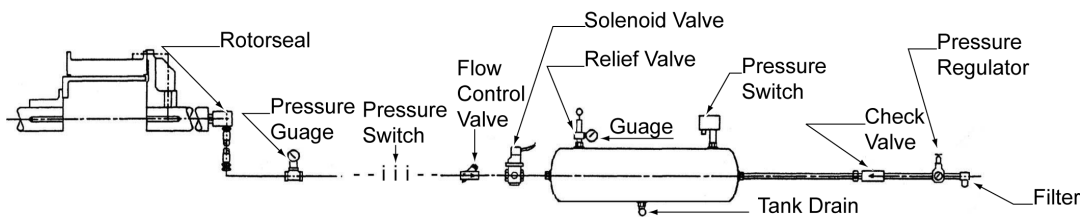

Figure 12
- 2.7.1 A typical air control system is shown on **Figure 12**. Since the air control system used will be dependent on the specific application, a detailed description cannot be made in this manual. Following are some general guidelines for installing and adjusting air controls.